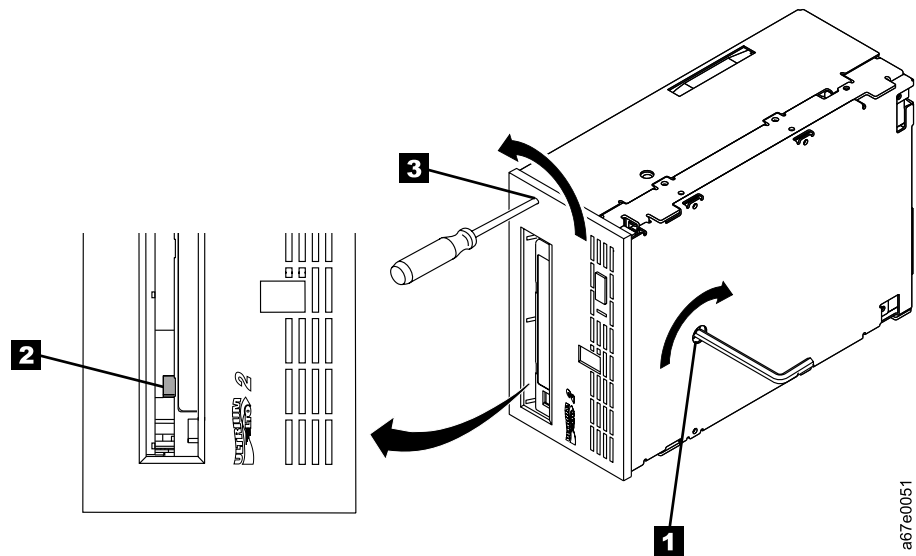

Figure 30. Determining whether the tape is broken
1. Place the drive so that the front faces you, then tilt it on its left side (see Figure 30).
2. Locate the access hole at the bottom of the unit (see **1** in Figure 30).